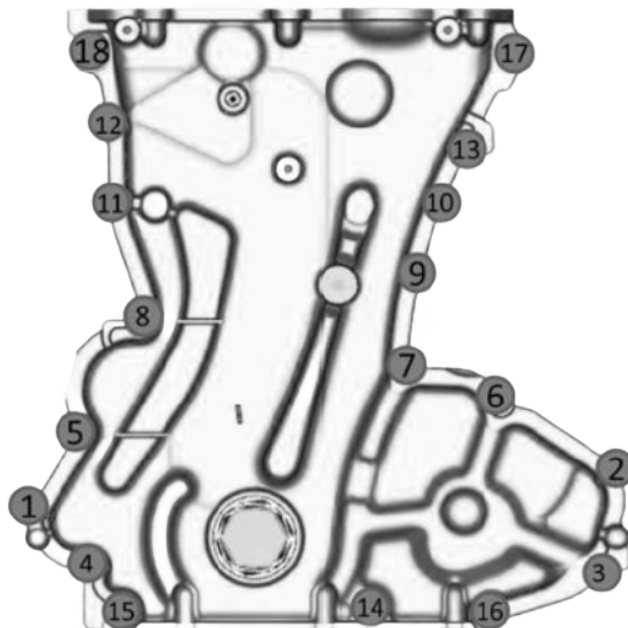

FIGURE 1: Timing Cover Torque Sequence
2. Using a digital torque wrench (recommended), mark each bolt, making sure that the mark is on the bolt head and the valve cover, and loosen the bolts one at a time. Then return the bolt back to the mark made earlier. Record the torque value at this mark as it should be 6.3-8.1 FT/LBS. To properly torque the bolt, follow the sequence supplied in Figure 1.